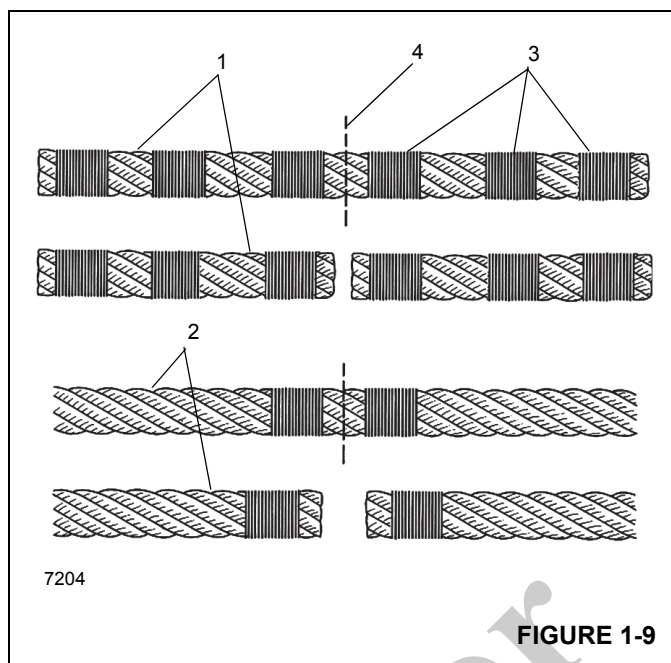

FIGURE 1-9
**NOTE:** Non-preformed wire rope (1) (Figure 1-9) should have three seizings (3) located on each side of the cut (4) as compared to performed wire rope (2).